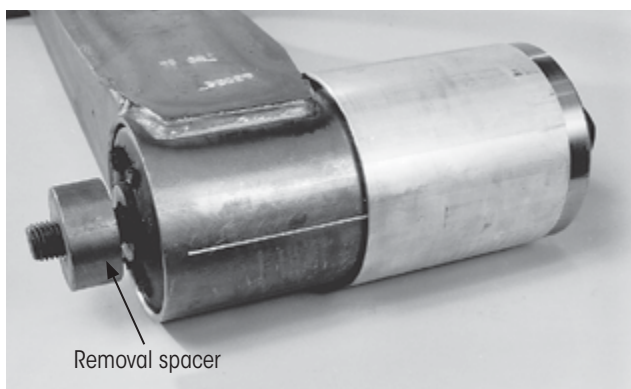

Figure 18: Installing removal spacer
8. **Slide** the removal spacer over the exposed hex head bolt threads on the opposite side of the bushing tube (Figure 18).